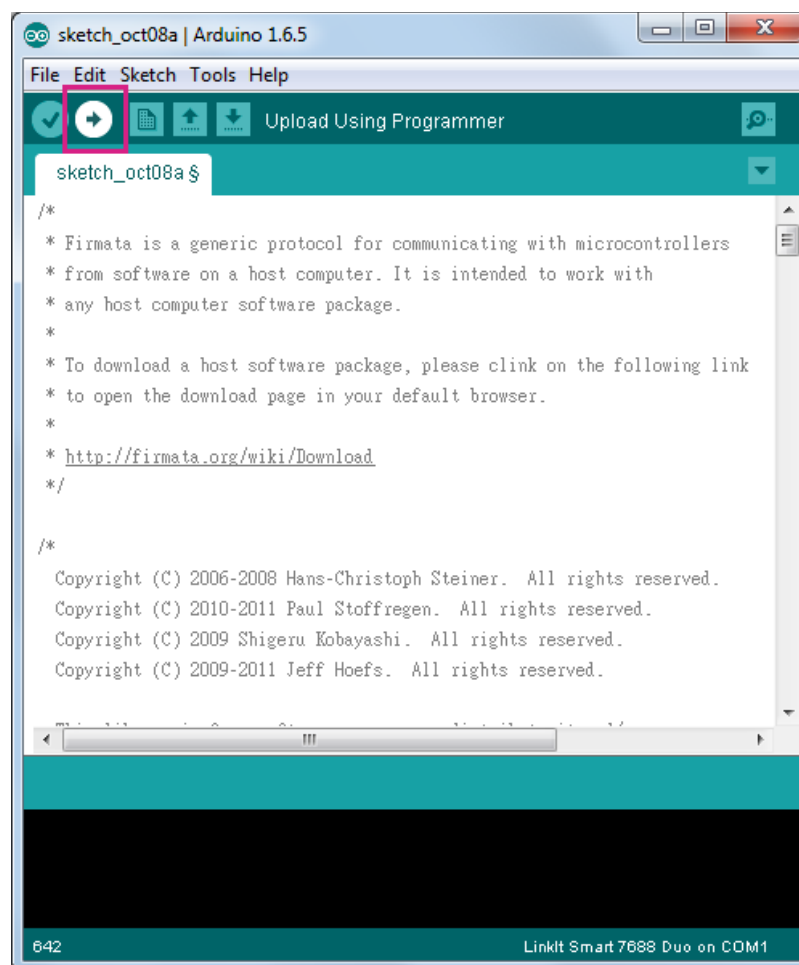

Figure 59 Uploading example sketch in Arduino IDE
- 3) Copy the example code to the Arduino IDE and click **Upload**, as shown in Figure 59.